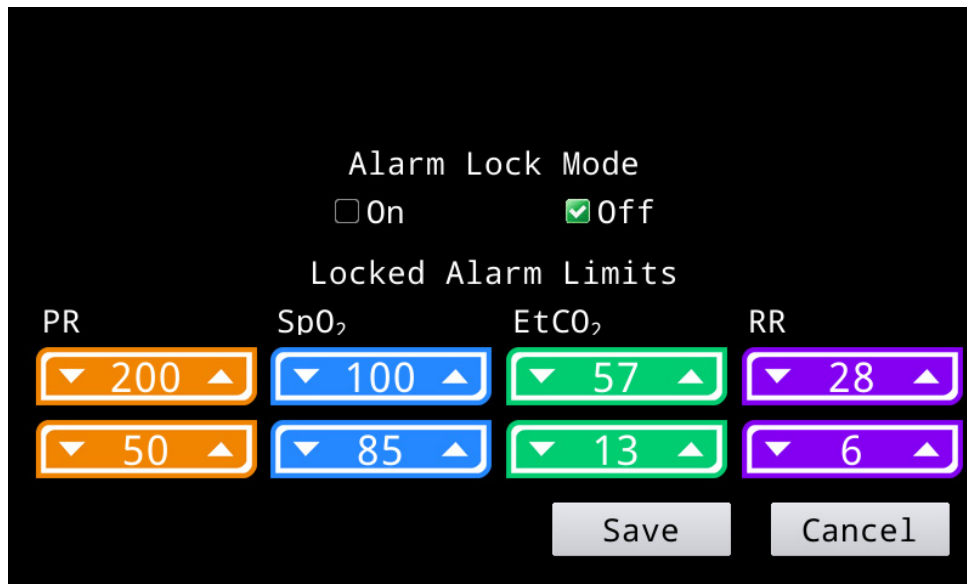

Figure 12. Alarm Lock Mode Screen
1. On the Configuration Menu, press **Alarm Lock Mode**. Alarm Lock Mode screen (figure 12) displays.